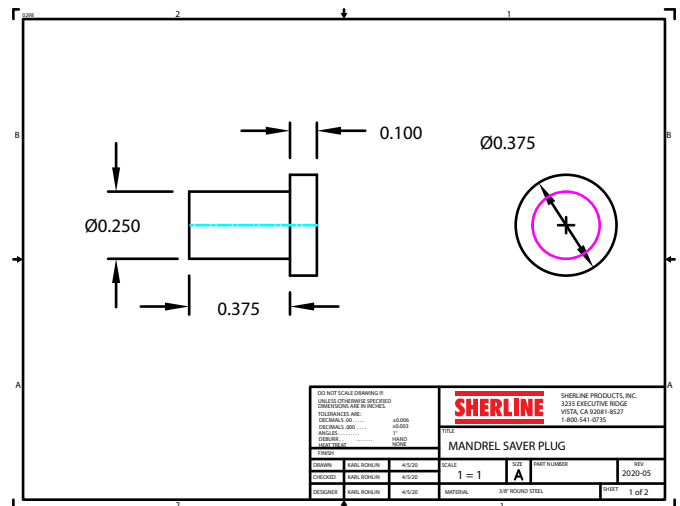
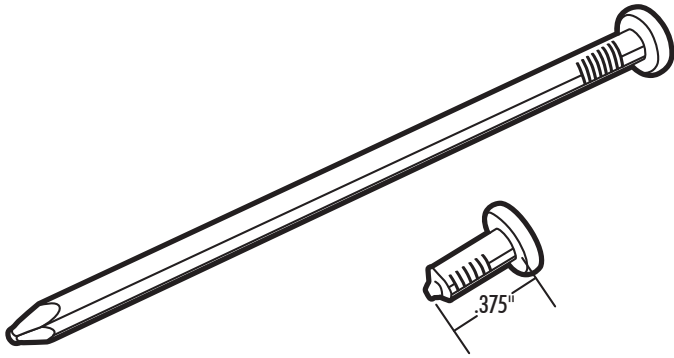

FIGURE 2—Mandrel Saver Plug dimensions
FIGURE 3—Shows a 16D Common nail and how it can be cut down for use as a mandrel plug.
D. For a mandrel saver with these dimensions, a solid plug made of steel with the dimensions shown in Figure 2 will work. A cheaper and easier plug could be made by cutting off the head of a "16D Common Nail" leaving 3/8" of the nail below the head (see Figure 3). Push the nail into the through-hole until the nail head rests against the back of the Morse taper.